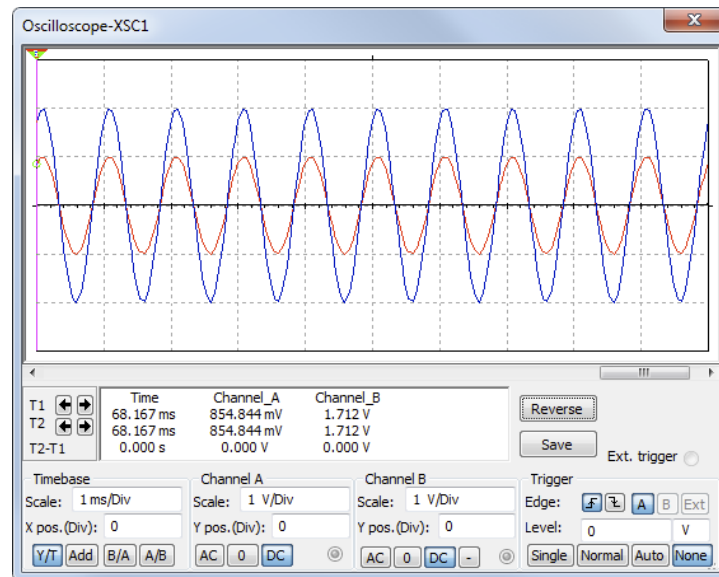

Figure 9. Simulation results.
7. Double-click on the **Oscilloscope** to open its Front Panel and observe the simulation results (see Figure 9). As expected, the input signal is being amplified by a factor of 2.